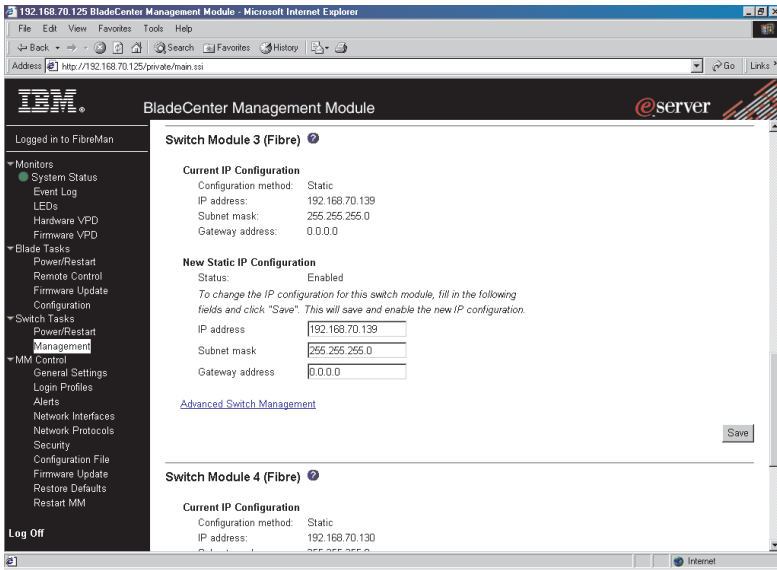

Figure 12. Switch Management window showing switch module 3 example
- Click the link for either Switch Module 3 or Switch Module 4. A window similar to the one in Figure 12 on page 30 opens.